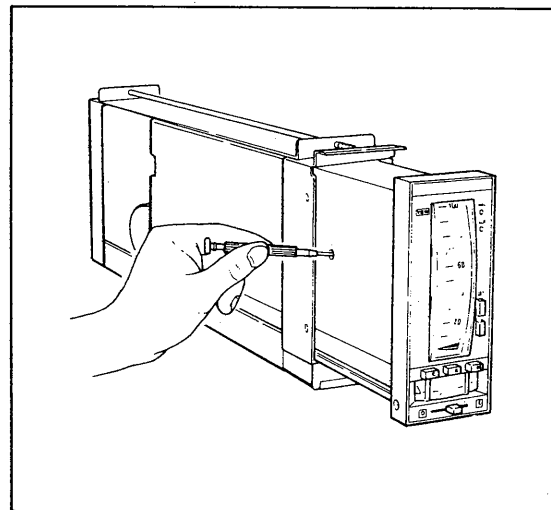

Figure 6-2-2. Adjusting Zero Point of Set Value Indicator.
- (2) Adjust using the same procedure as described in steps (2) thru (6) for the process variable indicator (6-2-2). Figure 6-2-2 shows zero point adjustment for set value indicator.